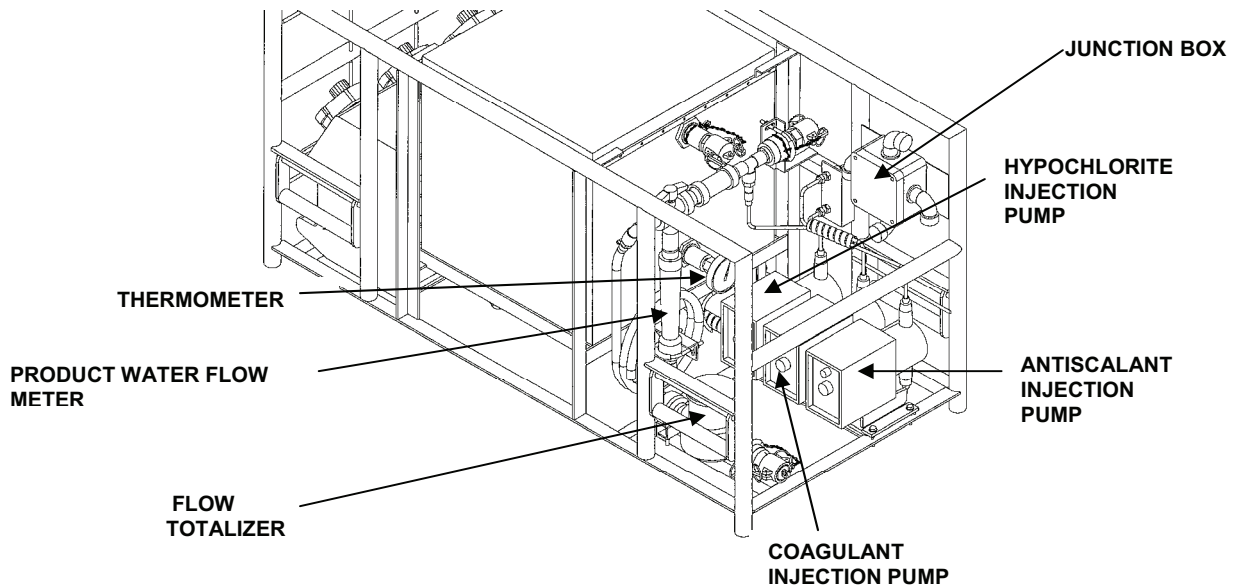

Figure 29. Chemical Injection/Cleaning Module.
14. Open or close the valve (V11) slowly until the product water flow meter on the chemical module indicates 2.1 GPM for freshwater (less than 20, 000 ppm source water) or 1.25 GPM for seawater (at or above 20, 000 ppm source water). See Figure 29.